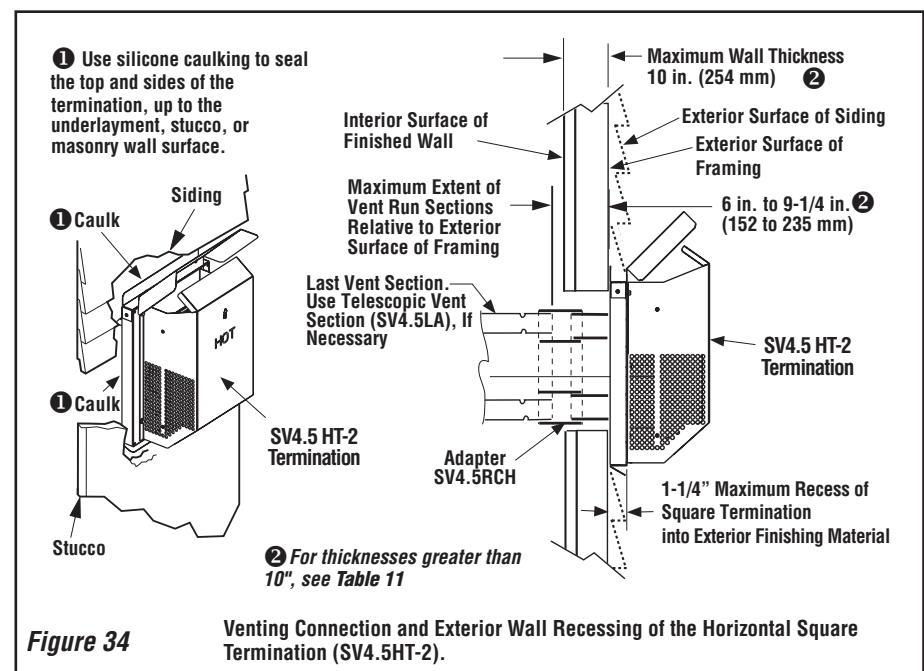

Figure 34 - Venting Connection and Exterior Wall Recessing of the Horizontal Square Termination (SV4.5HT-2).
J. Assemble vent run to exterior wall - If not previously measured, locate the center of the vent at the exterior wall. Prepare an opening as described in **Step B**. Assemble the vent system to point where the end of the last section is within 5 in. (127 mm) to 9-1/4 in. (235 mm) inboard of the exterior surface to which the SV4.5HT-2 termination is to be attached, see **Figure 34**. If the end of the last section is not within this distance, use the **telescopic vent section SV4.5LA**, as the last vent section. For wall thicknesses greater than that shown in **Figure 34**, refer to **Table 11 on Page 21**. This Table lists the additional venting components needed (in addition to the termination and adapter) for a particular range of wall thicknesses.
Install the square termination - For the last step, from outside the exterior wall, slide the collars of the termination onto the adapter until the termination seats against the exterior wall surface to which it will be attached. Orient the housing of the termination with the arrow pointed upwards. Secure the termination to the exterior wall. **The horizontal termination must not be recessed into the exterior wall or siding** by more than the 1-1/4" (32 mm) as shown in **Figure 34**.
Table 11 Note: See Figure 34 showing wall thickness range when using SV4.5HT-2 termination kit only.